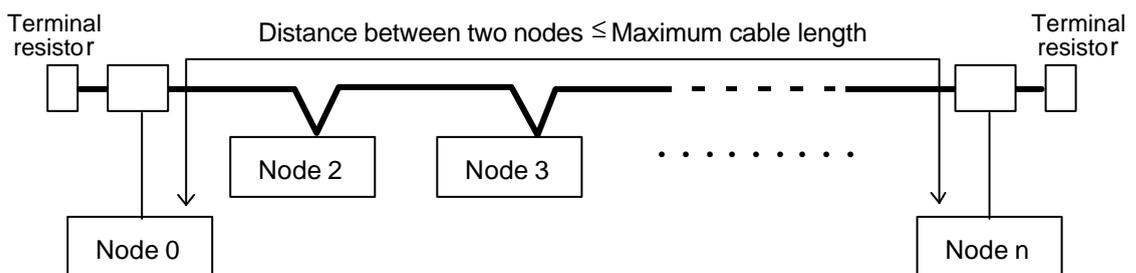

Figure 1.6 Distance Between Two Nodes on a Network with Drop Lines
b) Figure 1.6 shows the **maximum distance between two nodes** in the case that a Thick Cable or Thin Cable alone is used for the trunk line and that drop lines are used.
For Figure 1.6, the maximum trunk line length between node 0 and node n is equal to the maximum cable length (value in Table 1.2) minus total length of drop lines for node 0 and node n.